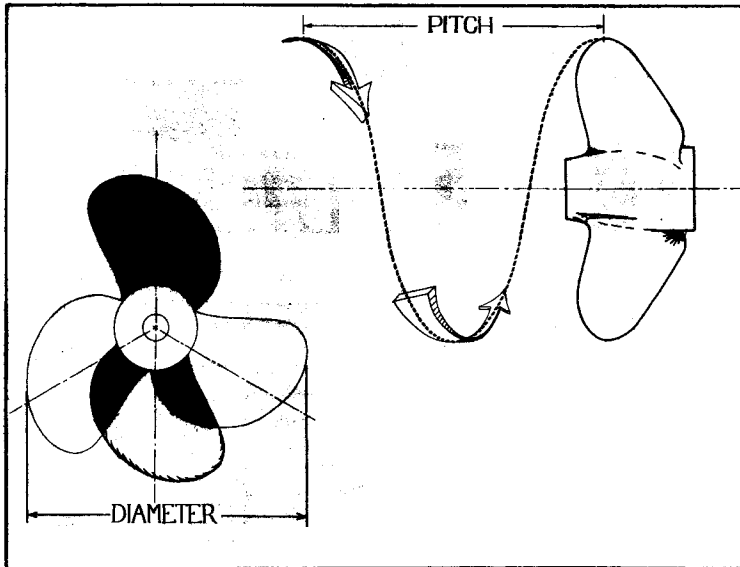

Figure 1. Measuring Propeller
1. **Propeller Pitch** - The theoretical distance a prop advances through the water in one revolution with no slip. (See Figure 1.) The percentage of slip varies considerably depending on the boat and load characteristics.